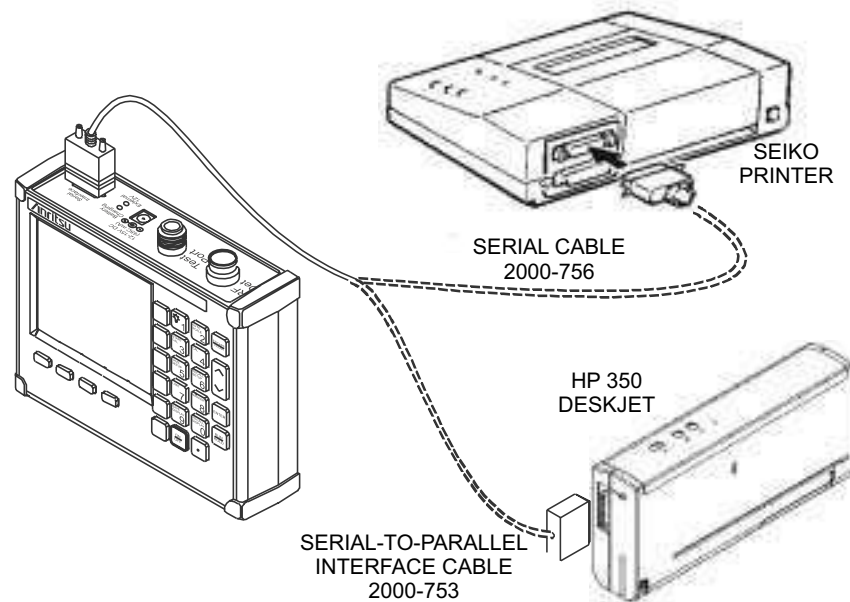

Figure 2-12. Printer Setup
Figure 2-12 shows a setup diagram for two types of printers. Refer to the printer manual for setup details.
Step 1. Connect the printer as shown in Figure 2-12.
- Step 1.** Connect the printer as shown in Figure 2-12.